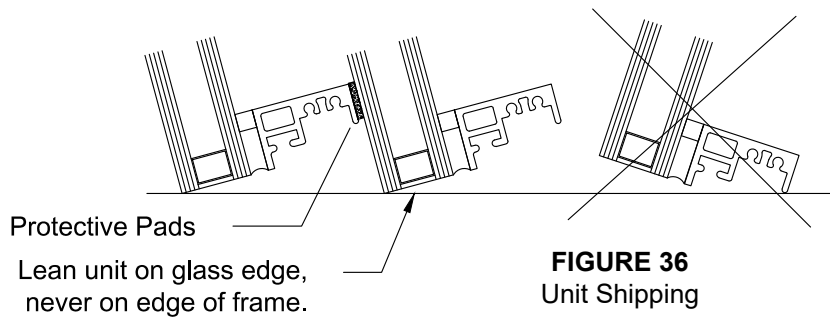

**FIGURE 34**
- 3.9 Remove approximately 4" of protective liner at each corner from the cassette unit. Take care not to touch or contaminate the exposed adhesive. See FIGURE 34, page 36.